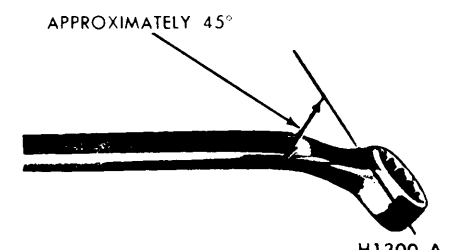

FIG. 4—Brake Bleeder Wrench
1. Position a bent $\frac{3}{8}$ -inch box wrench on the bleeder fitting on the right rear brake wheel cylinder (Fig. 4). Attach a rubber drain tube to the bleeder fitting. **The end of the tube should fit snugly around the bleeder fitting.**
3. Position a $\frac{3}{8}$ -inch box wrench on the bleeder fitting on the right rear brake wheel cylinder (Fig. 4). Attach a rubber drain tube to the bleeder fitting. **The end of the tube should fit snugly around the bleeder fitting.**
The self-adjusting brake mechanism consists of a cable, cable guide, adjusting lever, adjusting screw assembly, and adjuster spring (Fig. 4). The cable is hooked over the anchor pin at the top and is connected to the lever at the bottom. The cable is connected to the secondary brake shoe by means of the cable guide. The adjuster spring is hooked to the primary brake shoe and to the lever. The automatic adjuster operates only when the brakes are applied while the car is moving rearward and only when the secondary shoe is free to move toward the drum beyond a predetermined point.